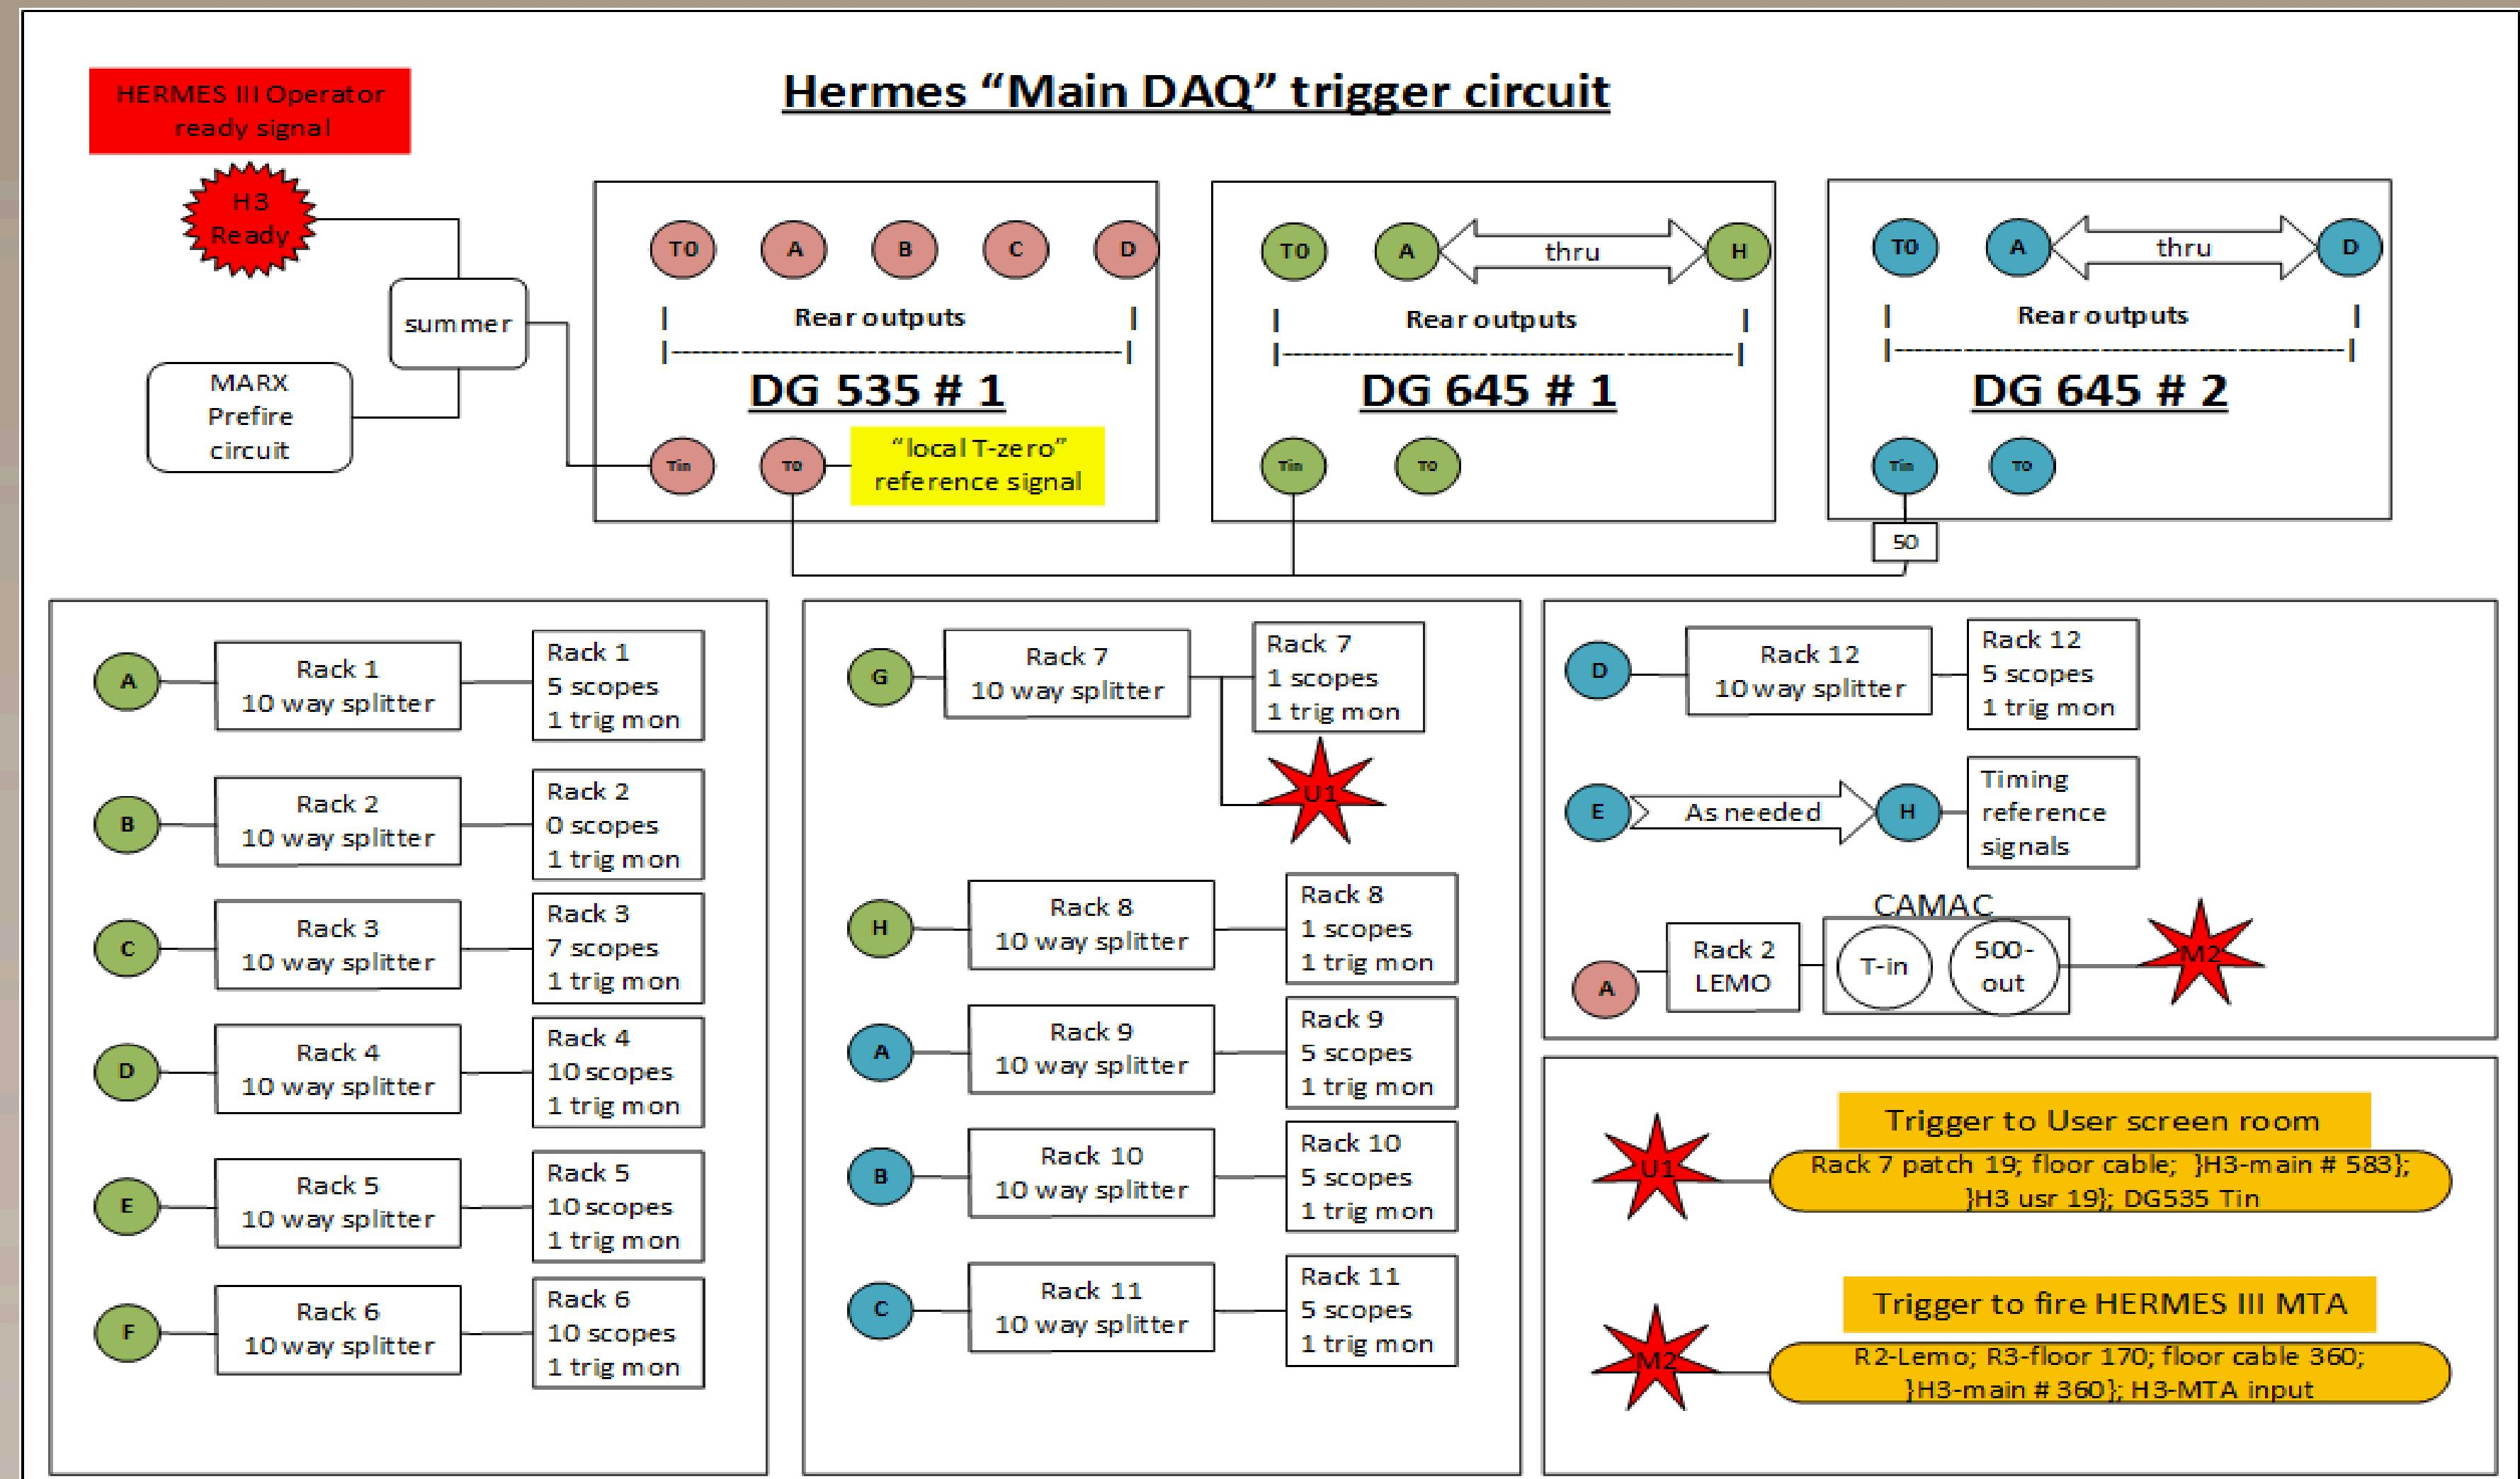

Figure 1: HERMES Main DAQ trigger circuit
- Main Trigger:** We eliminated three independent trigger systems for triggering the data acquisition system (DAS) with a single "top" level generator for triggering all sub-systems (Fig 1: "DG 535 #1", Stanford Research Systems (SRS) model DG535). Prior to this change, the independent trigger systems were derived from machine diagnostics making it difficult to time sync the entire DAS system.
- Sub-triggers:** We replaced the numerous legacy trigger generators with two SRS DG-645 delay generators (Fig 1: "DG 645 # 1" and "DG 645 #2"), each equipped with eight individual 40 volt (50 ohm) outputs. The DG-645's outputs are cabled to a rack mounted trigger splitter. Our DAS system contains 12 racks of scopes providing this trigger system with four spare DG 645 outputs.
- Define "local T-zero" reference, measure, and archive:** We defined DG 535 #1's front panel T-zero output signal as our "local T-zero" timing reference (Fig. 1 yellow highlight). We measure the time delay between this signal edge and each scope trigger input signal and archive this appropriately into the DAS database. The DAS program later time shifts the scope time bases when processing the HERMES III accelerator shot data.